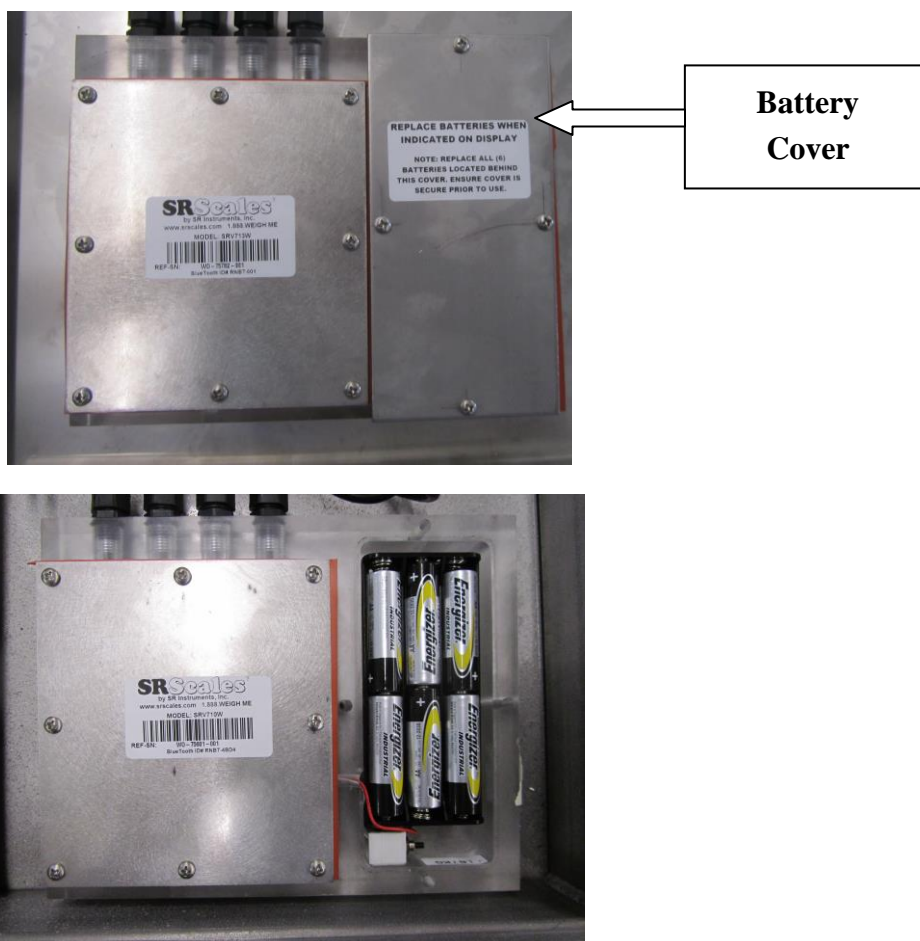

Figure 4: Battery Replacement
**STEP 1:** Turn the platform over and remove the four screws on the Battery Cover (Figure 4).
**STEP 2:** Remove and replace the six (6) “AA” cell batteries.
**STEP 2:** Remove the two (2) screws holding the display housing to the platform
**STEP 3:** Pull the display out from under the platform and remove the eight (8) screws from the display box cover pictured Figure 4.